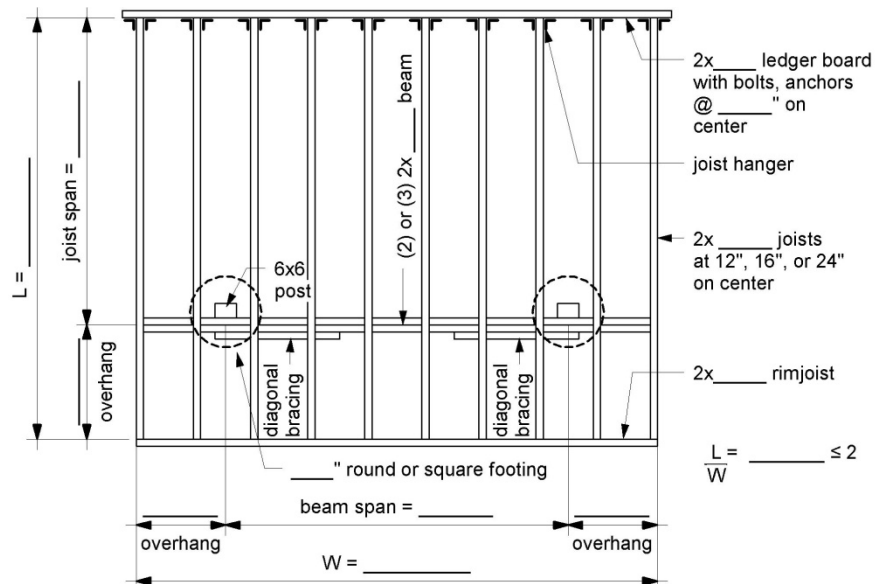

FIGURE 7: TYPICAL DECK FRAMING PLAN
*Revise FIGURE 7: 'TYPICAL DECK FRAMING PLAN' to remove the word "screws" from the note 2x _____ ledger board with bolts, screws, anchors @ _____" on center as shown below: